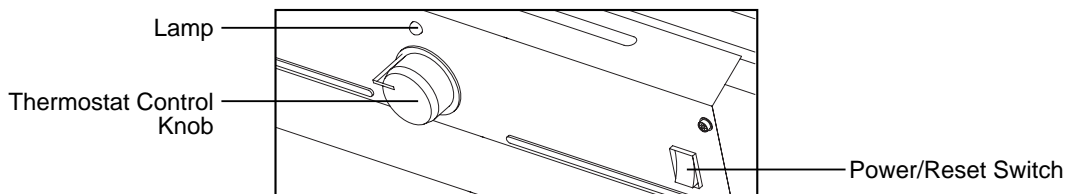

Figure 9. DFA-45T / 70T / 125T / 170C / 210C MODELS
4. Turn "THERMOSTAT CONTROL Knob" to desired setting (setting range : 40°F ~ 110°F) and push power switch to "ON" position, power indicator lamp will light and heater will start. If heater does not start, the thermostat setting may be too low, turn THERMOSTAT CONTROL Knob" to higher position to start heater. If heater still does not start, turn power switch to "OFF" and then to "ON" position.(See Figure9). If heater still does not start, see Troubleshooting Guide on page 18.